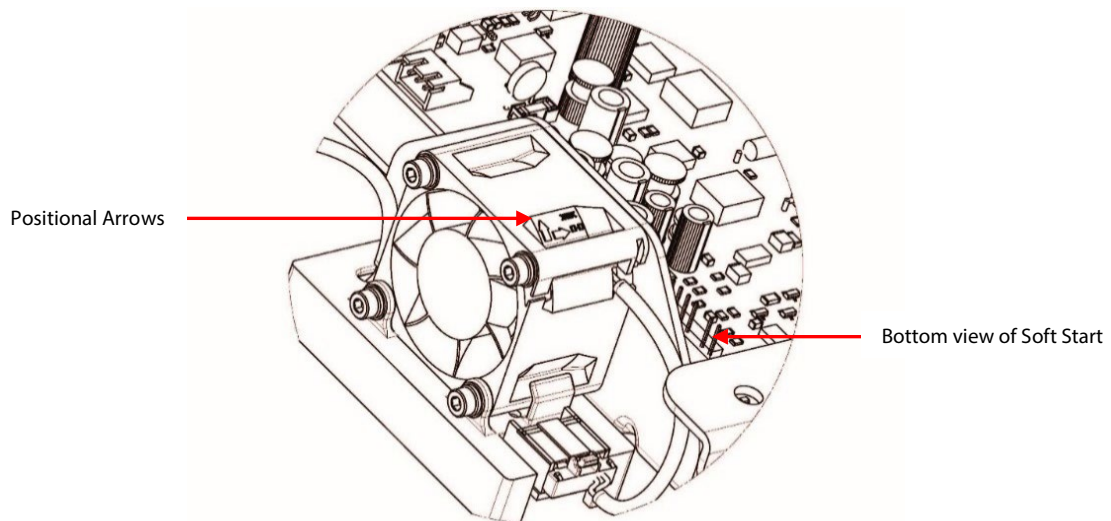

Figure 3. Fan Orientation with Adapter
1. Orient the fan so the vertical arrow is pointing down and the horizontal arrow is pointing toward the Soft Start Board. Figure 3 (Fan Orientation with Adapter Board) shows an upside-down view of the Soft Start and where the fan arrows should be pointing.